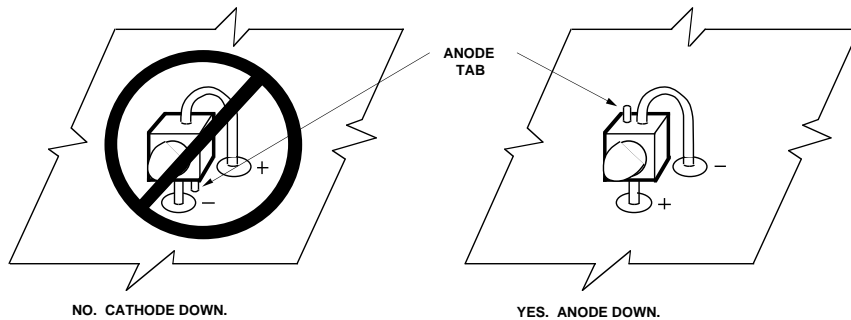

Figure 1. Proper Right Angle Mounting to a PC Board to Prevent Protruding Anode Tab from Shorting to Cathode Connection.
* REFER TO FIGURE 1 FOR DESIGN CONCERNS.